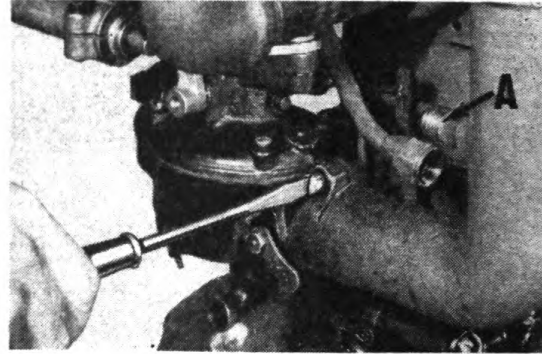

Figure 124
(7) Disconnect breather line (at "A" Figure 124) from air intake pipe.
(8) Loosen screw holding air intake pipe to carburetor.